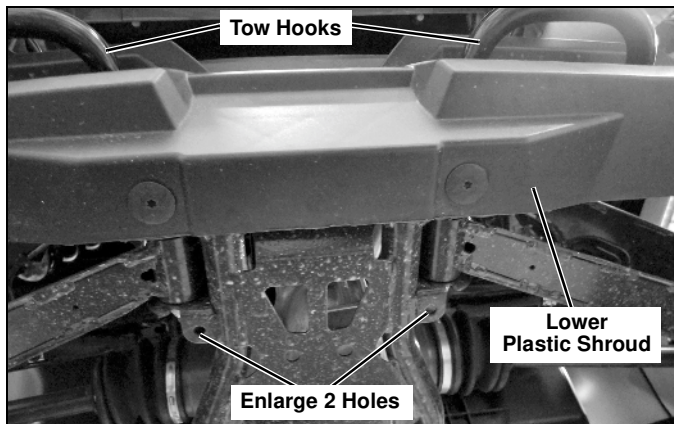

Figure 1
1. Remove the two tow hooks and lower plastic shroud from the vehicle. (See Figure 1.)
2. Use a 13/32" drill bit to enlarge the 2 holes (Driver and Passenger side) in the front A-arm brackets of the front wheels. (See Figure 1.)